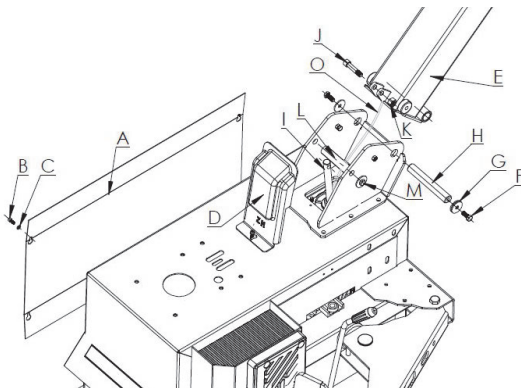

Fig.7
- Use 6mm inner hexagon spanner to take off the screw B and washer C, then take off the side cover A and cover as fig.7.
- Lift column E as fig.7 , make pin hole of column and body in line, insert pin axis H, tighten screw F and washer G (screw M12x25) (If column can not be fixed in, loose screw M, after installation finished, tighten screw M again.) .
- Install side cover A and cover D, fasten with screws as fig. 7 .